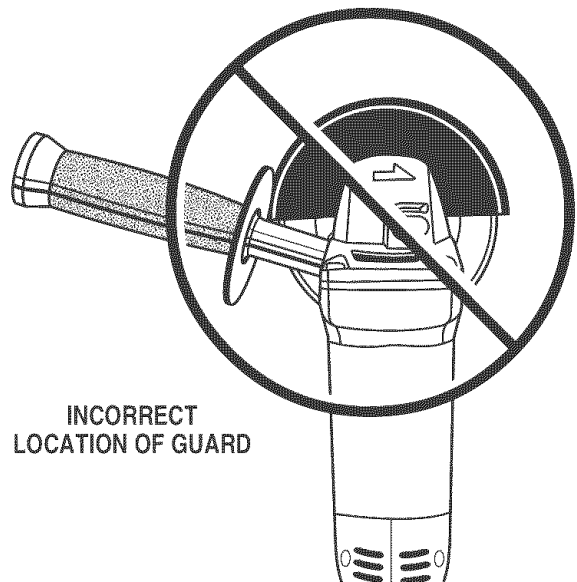

Fig. 6
**WARNING:** Never place the guard so that it is on front of the grinder as shown in Figure 6. This could result in serious injury because sparks and loose particles thrown from the grinding wheel would be directed toward the operator. Always place the guard in the correct location as shown.